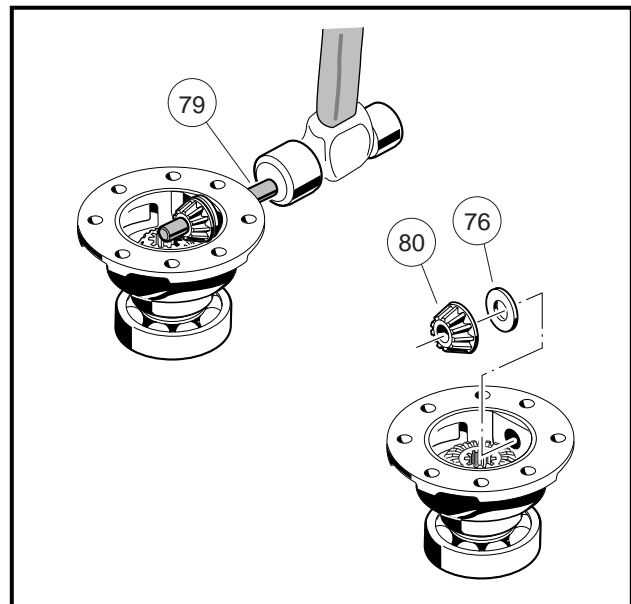

Figure 16-68 Idler Gear
3. Start the differential pin (79) into the carrier case by lightly tapping it in with a plastic or rubber hammer. Before the pin enters the inside of the carrier case, position the thrust plate (76) and idler gear (80) in the case and continue tapping the pin through the thrust plate and idler gear as shown (**Figure 16-68, Page 16-29**).